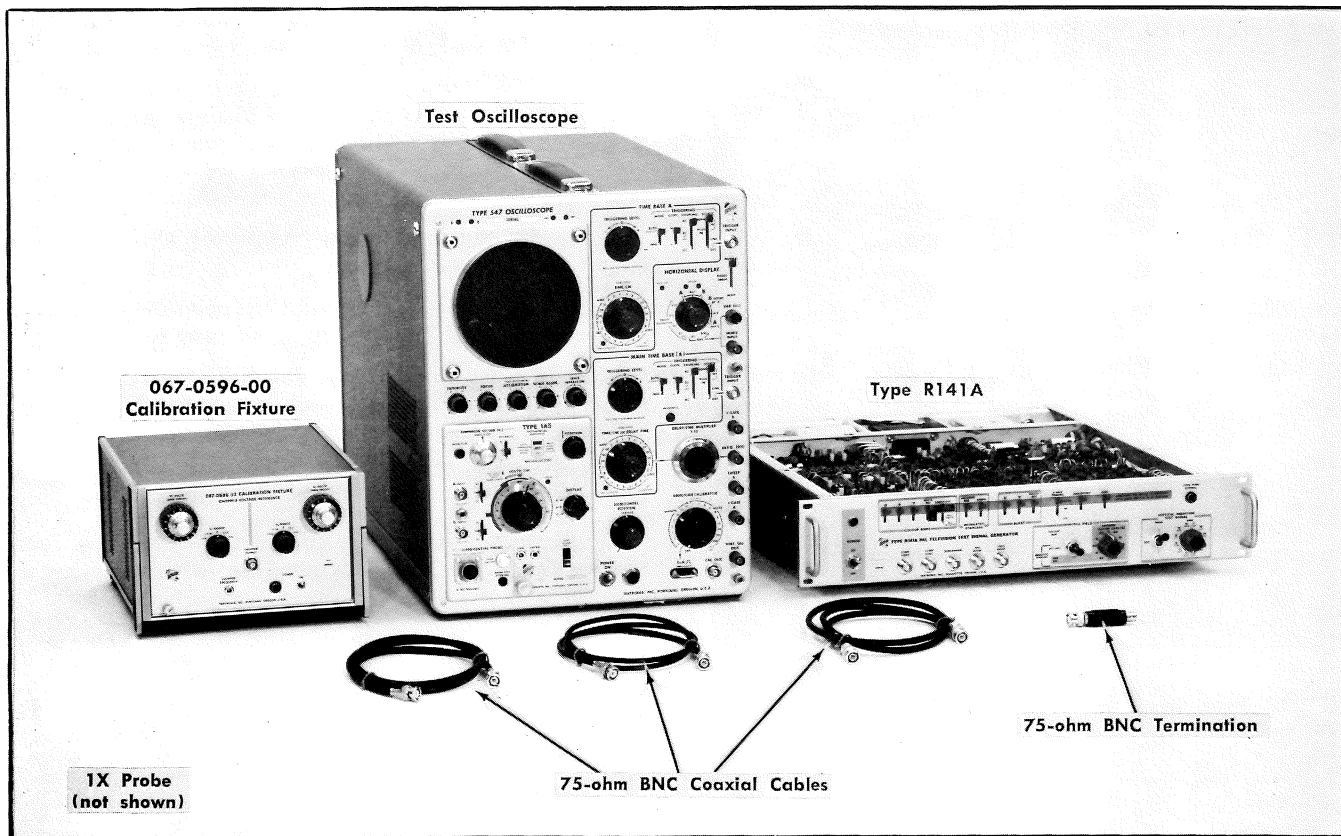

Fig. 5-21. Test equipment required for steps 17 through 31.
17. Check/Adjust Spurious Subcarrier ❶
- a. Test equipment is shown in Fig. 5-21.